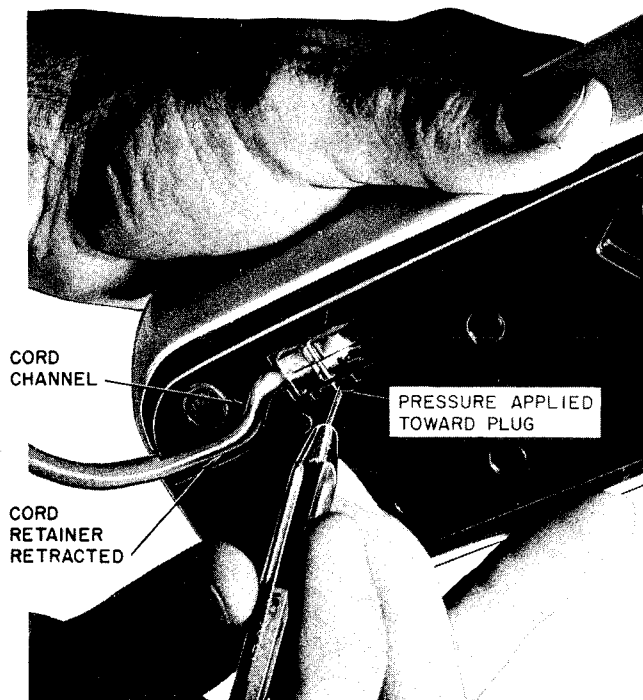

Fig. 12—Removing Mounting Cord From AD1 telephone Base
(3) To remove the D5AL or D5AN mounting cord from the AD1 base (Fig. 12), use a KS-16750 type reaser or equivalent to slide the cord retainer from the channel. Lift the cord from the channel. Place the tool in the space provided (at side of plug) and apply pressure against the spring clip toward the body of the plug. When the spring clip has been depressed, pull the plug out of the jack.